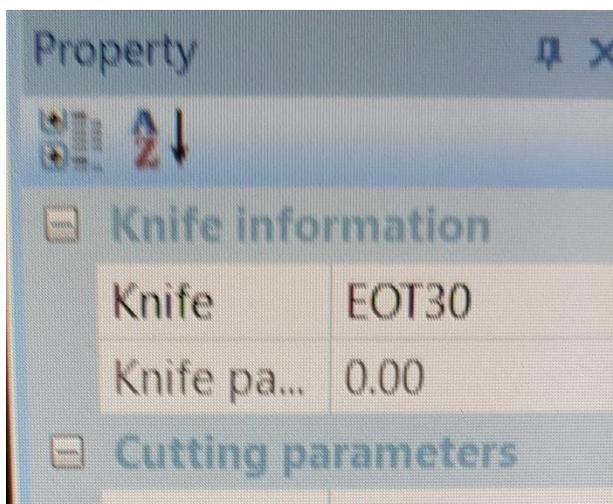

Figure 4.11
- Changing the tool used - Knife [Figure 4.11].